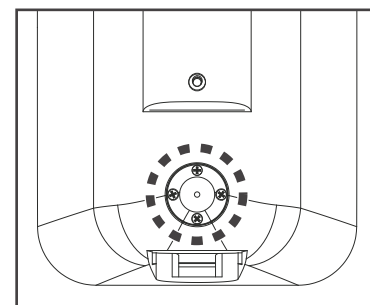

FIGURE 9:
5. Feed the speaker wires from the brackets into the wire entry grommets on the backs of the speakers, through the wire tunnels and out the openings on the speakers' front panels (see figure 9).